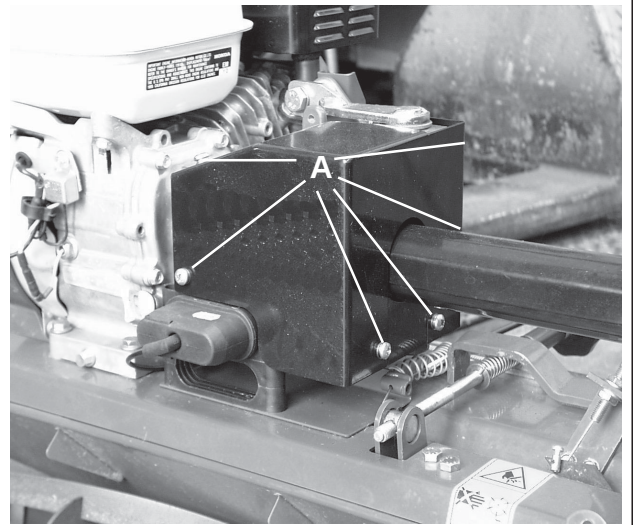

Fig. 10.3
Air cleaner (dual element type) (Fig. 10.3)
10.3 Clutch and Layshaft Cover (Fig. 10.3)
Undo the fixing screws for cover (A Fig. 10.3) and remove cover. Grass can then be cleared from the primary clutch and layshaft area. When completed replace cover and secure with original fixings.